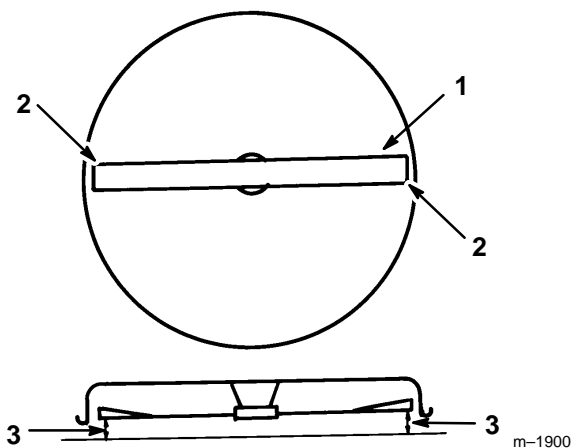

Figure 46
4. Carefully rotate blade(s) side to side (Fig. 46). Measure between the outside cutting edges and the flat surface (Fig. 46). If both measurements are not within $3/16$ " (5 mm), an adjustment is required; refer to steps 5 and 6.